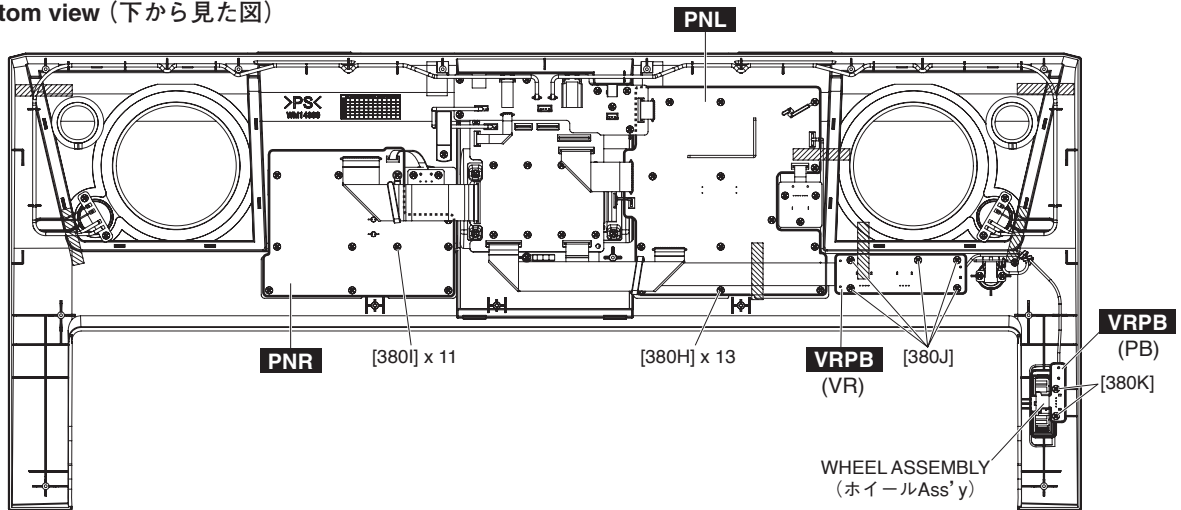

Fig.9 (図9)
- 11-3 Remove the thirteen (13) screws marked [380H]. The PNL circuit board can then be removed. (Fig.9)
- 11-3 [380H] のネジ 13 本を外して、PNL シートを外します。(図 9)
- 12-3 Remove the eleven (11) screws marked [380I]. The PNR circuit board can then be removed. (Fig.9)
- 12-3 [380I] のネジ 11 本を外して、PNR シートを外します。(図 9)
- 13-4 Remove the five (5) screws marked [380J] and two (2) screws marked [380K]. The VRPB (VR+PB) circuit board can then be removed with the wheel assembly attached. (Fig. 9)
- 13-4 [380J] のネジ 5 本と [380K] のネジ 2 本を外して、ホイール Ass'y が付いた状態で VRPB (VR + PB) シートを外します。(図 9)